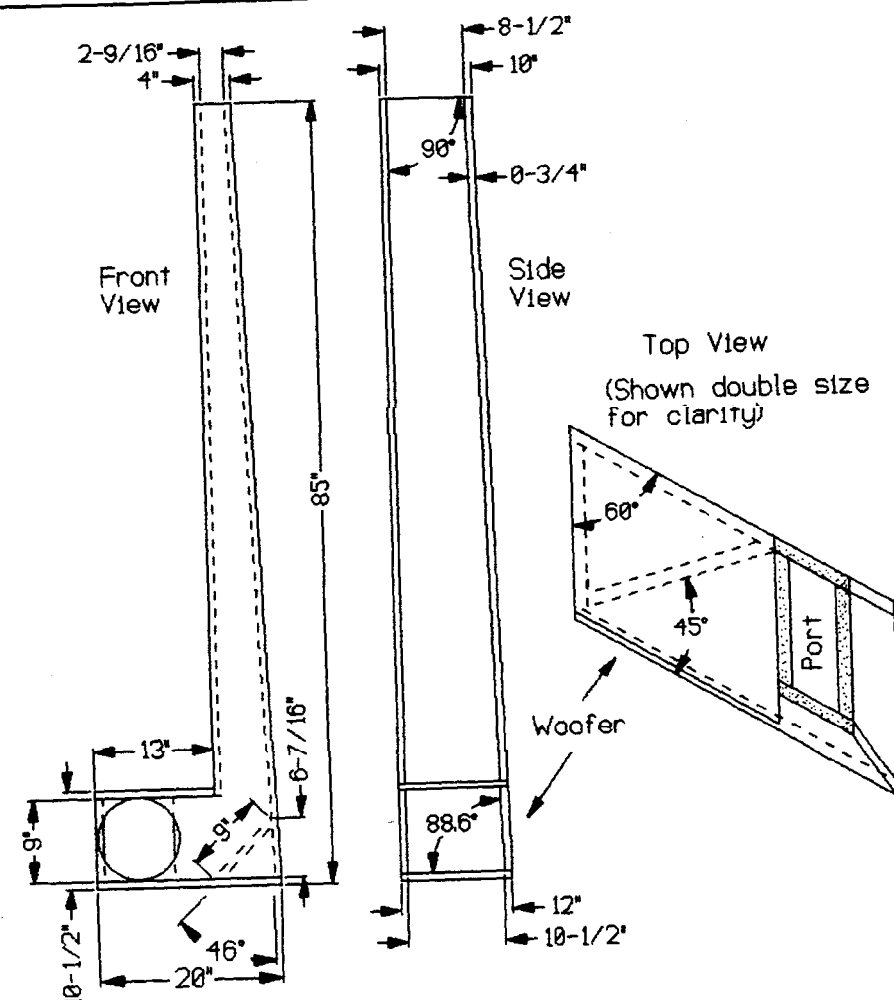

FIGURE 12-21: Compact/Integrated ESL/TL.
**SPECIAL CONSTRUCTION METHODS FOR THE COMPACT ESL/TL.** The compact-hybrid systems shown later in this book have a very unusual TL design (Fig. 12-21). Note from the top view that it is not a rectangle, but a parallelogram. To make this easier to visualize, I have drawn the front and side views as though they formed a rectangular enclosure. When you assemble it, you will cut the parts to the necessary angles to form a parallelogram.